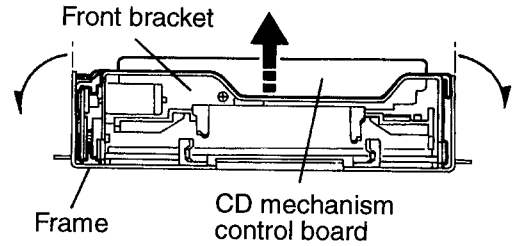
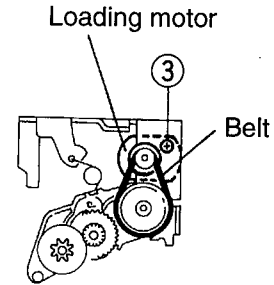

Fig.14
Fig.15
CAUTION:Remove the front bracket from the frame while expanding both sides of the frame as shown in Fig.14
- 1.Remove the belt from the loading motor (See Fig.14 and Fig.15)
- 2.Remove the one screw ③ retaining the loading motor(See Fig.15)